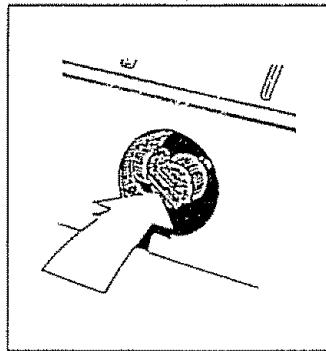

FIG. 5
- Open the fuel shutoff valve (Fig. 5)
- Close the Fuel Shutoff Valve (Fig. 5).